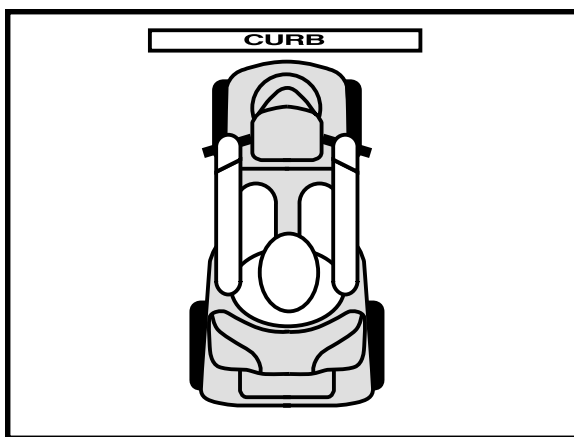

Figure 3. Correct Curb Approach
**WARNING!** Be sure your scooter is traveling perpendicular to any curb you may be required to ascend or descend. See figures 3 and 3A.